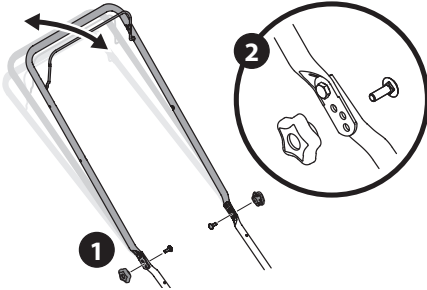

Figure 25
1. Remove wing nuts and carriage bolts from handle (Figure 25).
2. Position the handle in one of the three positions that is most comfortable. See Figure 25 inset.